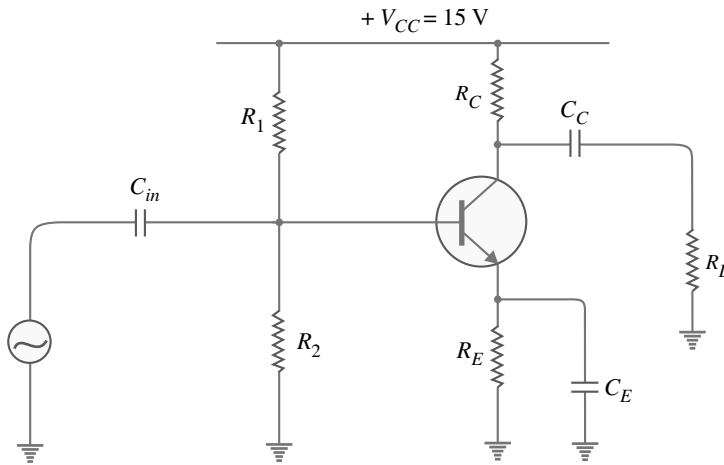

Fig. 8.19
**Example 8.8.** For the transistor amplifier shown in Fig. 8.19,  $R_1 = 10 \text{ k}\Omega$ ,  $R_2 = 5 \text{ k}\Omega$ ,  $R_C = 1 \text{ k}\Omega$ ,  $R_E = 2 \text{ k}\Omega$  and  $R_L = 1 \text{ k}\Omega$ .
**Example 8.9.** In the transistor amplifier shown in Fig. 8.19,  $R_C = 10\text{ k}\Omega$ ,  $R_L = 30\text{ k}\Omega$  and  $V_{CC} = 20\text{ V}$ . The values  $R_1$  and  $R_2$  are such so as to fix the operating point at  $10\text{ V}$ ,  $1\text{ mA}$ . Draw the d.c. and a.c. load lines and determine the slope of the two load lines. Assume  $R_E$  is negligible.